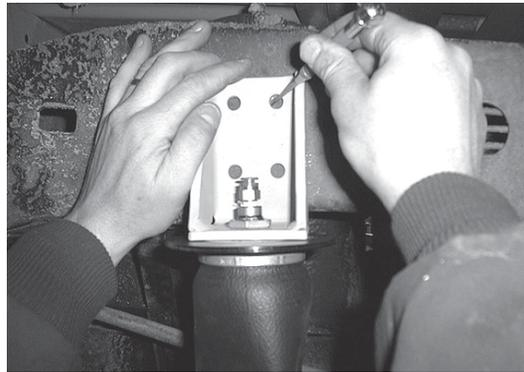

fig. B.10
- Using the upper bracket as a template, mark one of the holes on the upper bracket (fig. B.10).